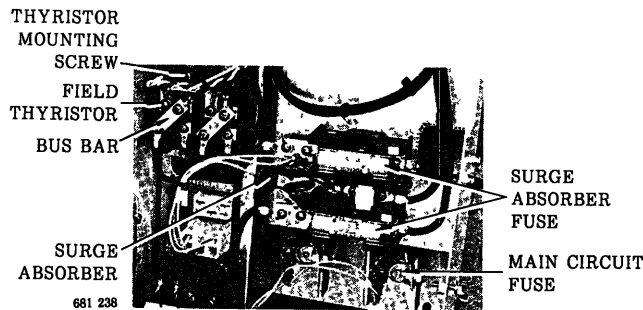

Fig. 16 Field Thyristor (230 V, 25 A)
1. Loosen the bus bar screws and the lead clamping screws, and unclamp the leads. In this case, mark all the terminals for identification. (Fig. 16)